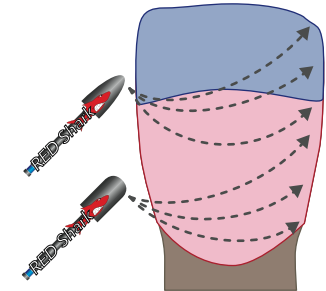

fig. 10.3B
1. BASIC LAYERING: In the basic layering we will compensate for the linear retraction of the ceramic by adding dentin, enamel and transparent masses to complete the final shape of the element (Fig. 10.3B).